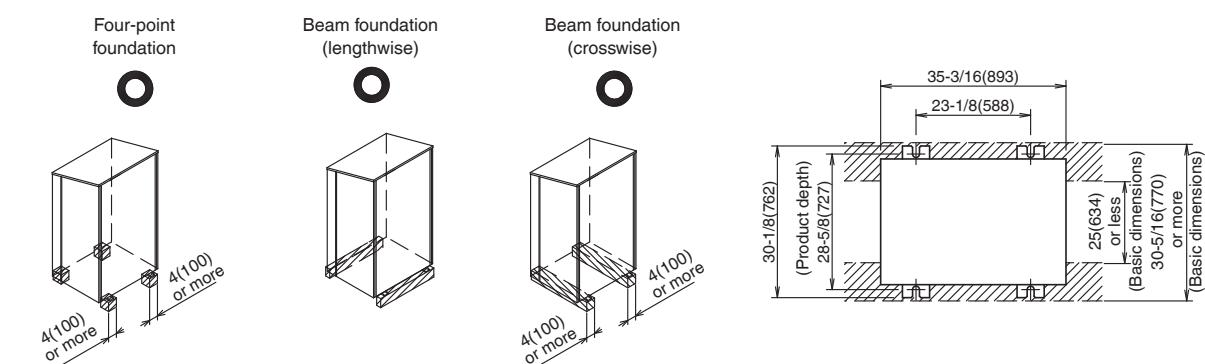

Fig. 6
- Make the foundation support the product in the area above the shaded area in Fig. 6.